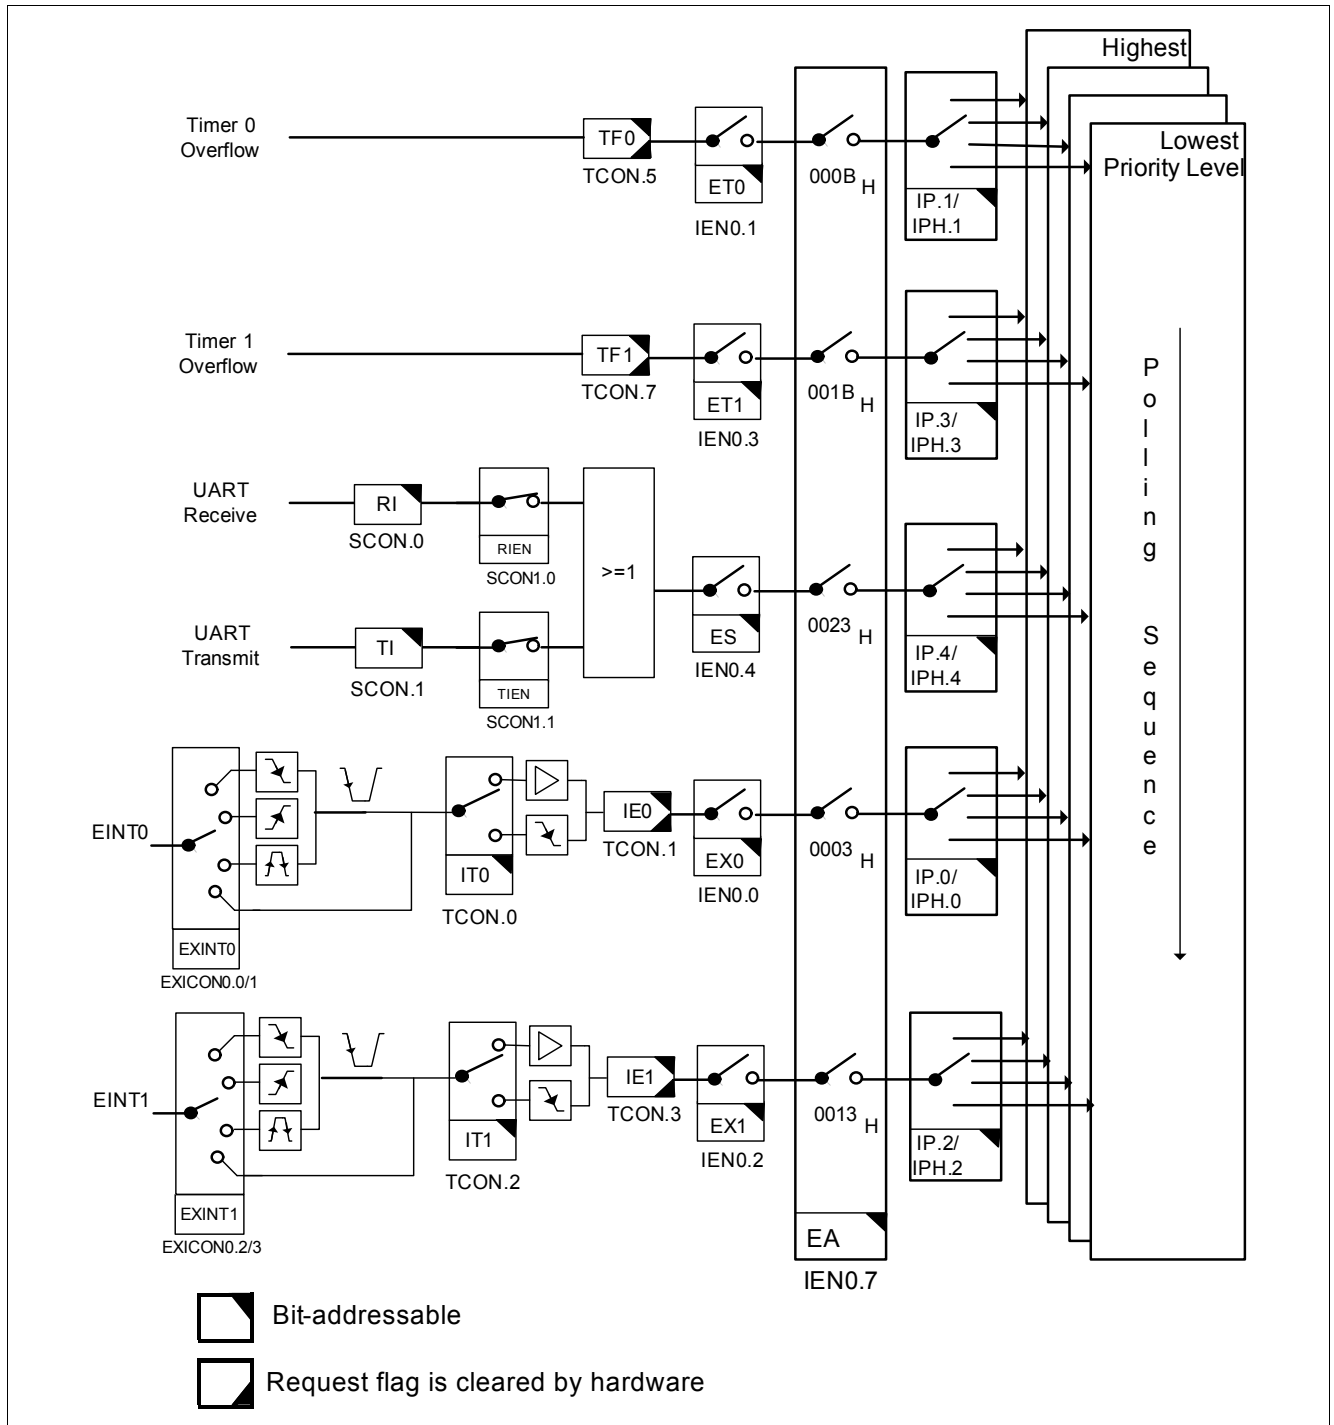
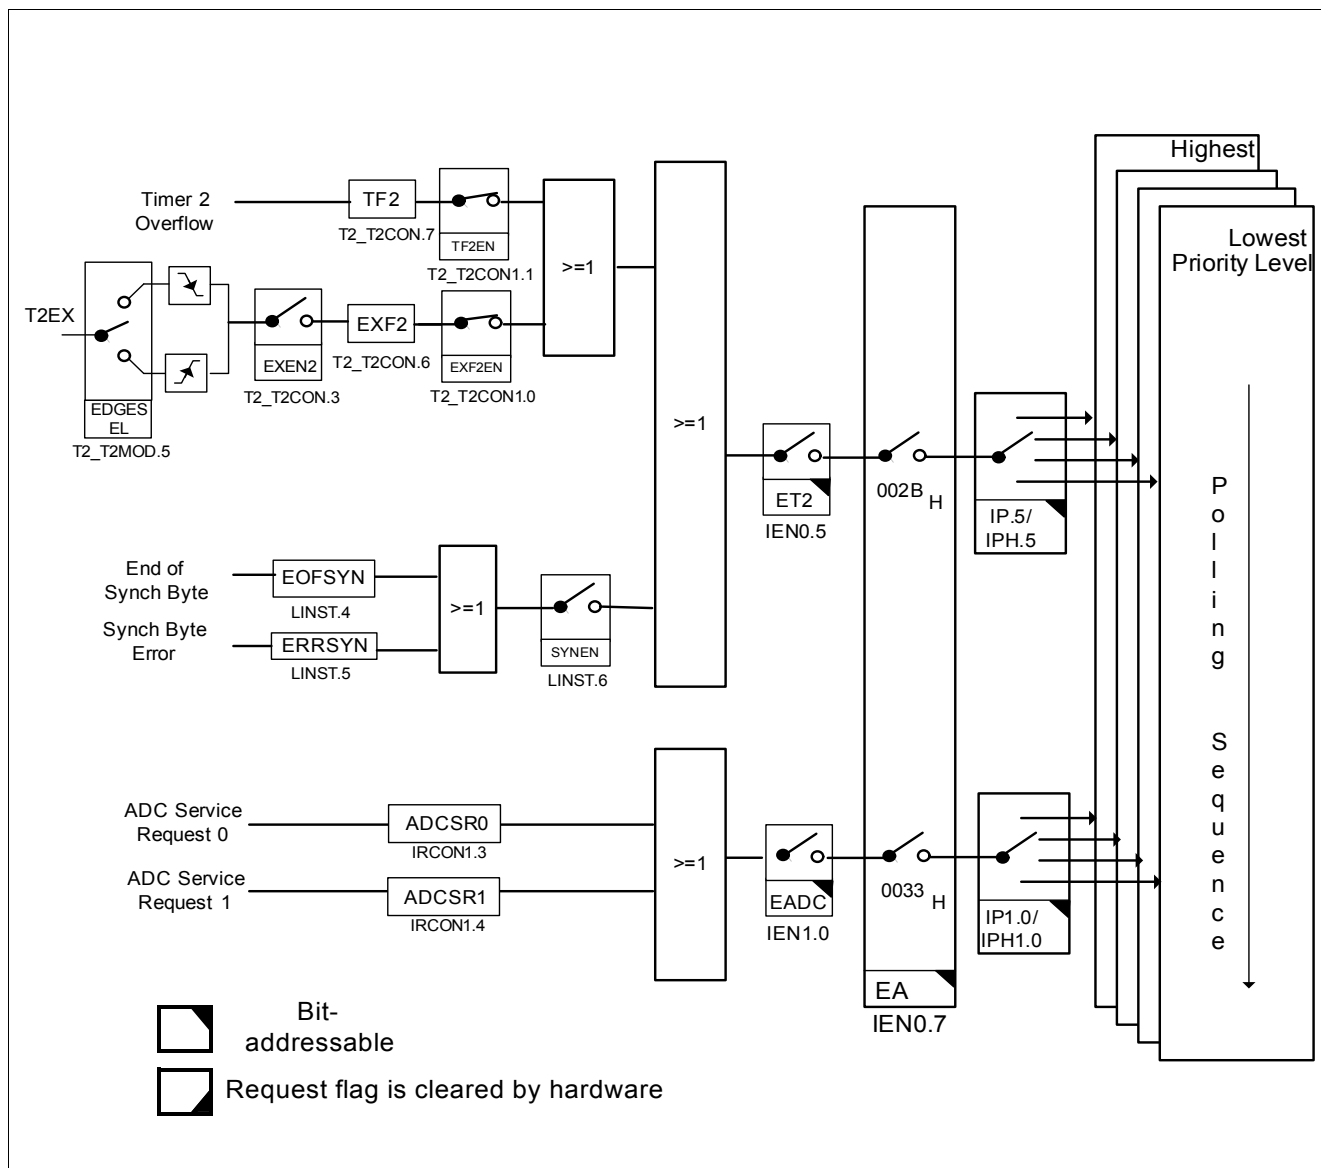
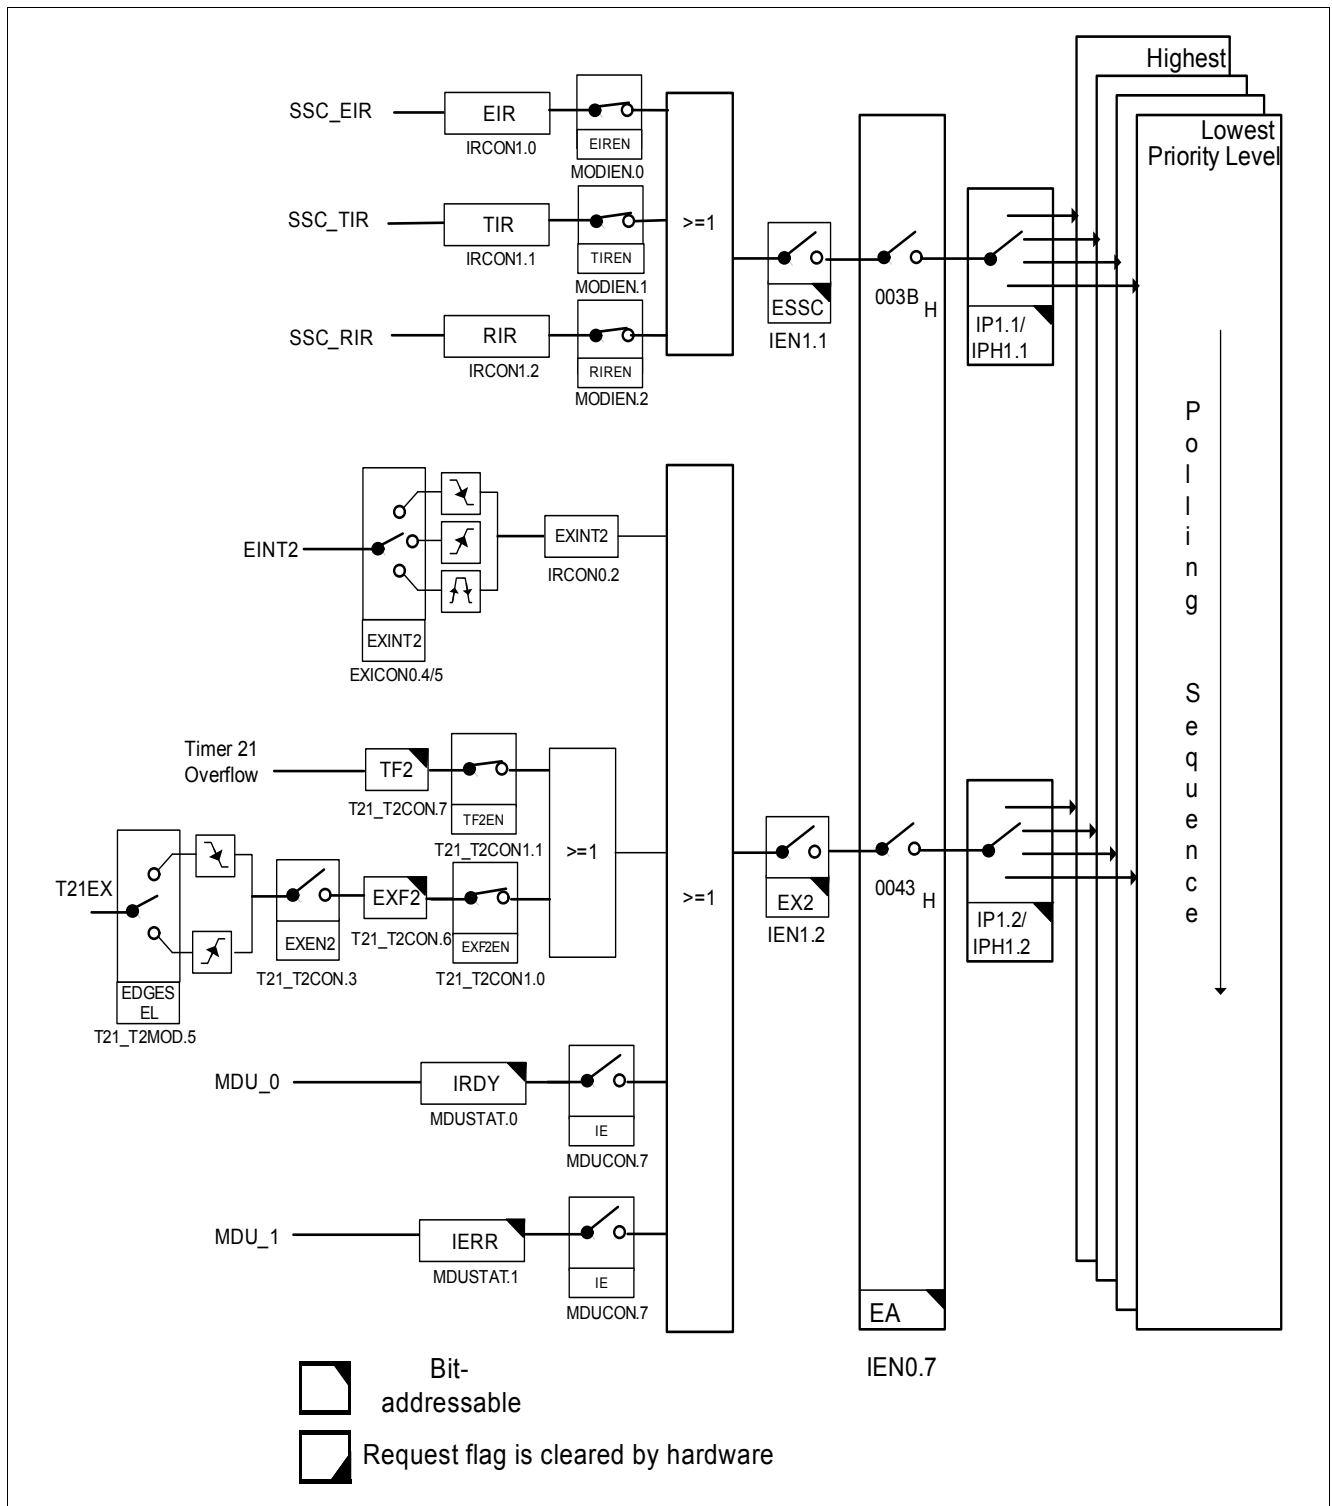
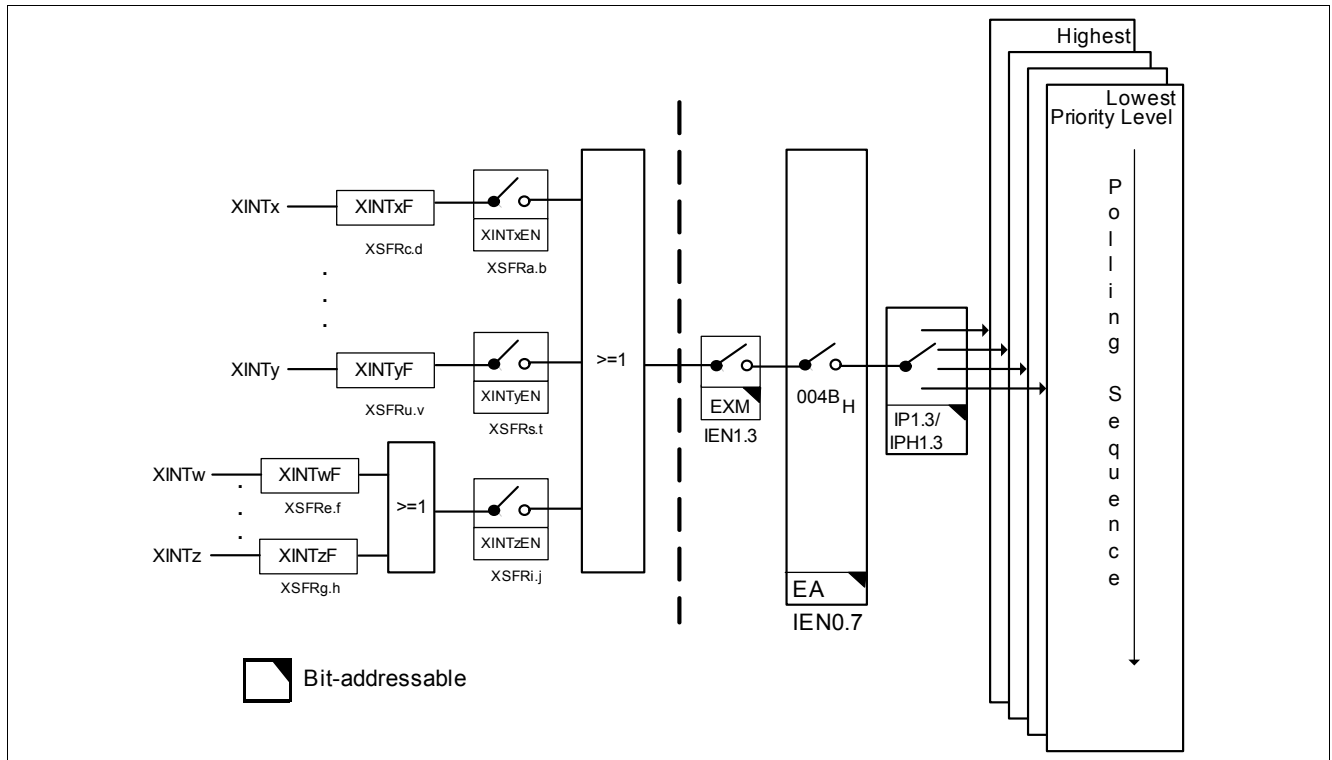

Figure 14 Interrupt Request Sources (Part 1)
Figure 15 Interrupt Request Sources (Part 2)
Figure 16 Interrupt Request Sources (Part 3)
Figure 17 Interrupt Request Sources (Part 4)
**Figure 14**, **Figure 15**, **Figure 16**, **Figure 17** and **Figure 18** give a general overview of the interrupt sources and nodes, and their corresponding control and status flags. **Figure 19** gives the corresponding overview for the NMI sources.